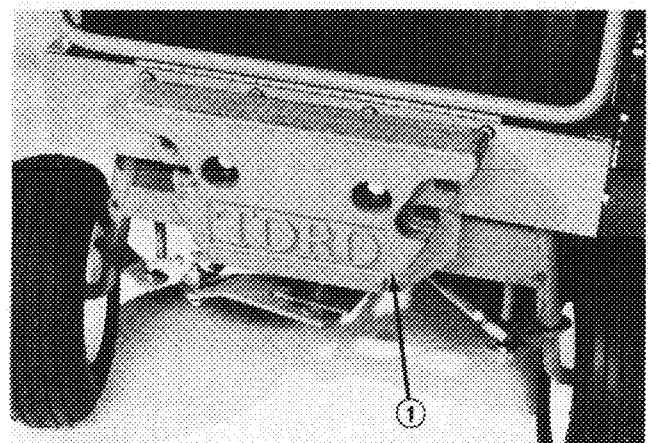

Figure 8
3. Mount rear weights to back of machine with two capscrews, lockwashers, spacers, and nuts (Fig. 8). Spacer must be between weight and chassis. Order parts from your Authorized Toro Distributor.